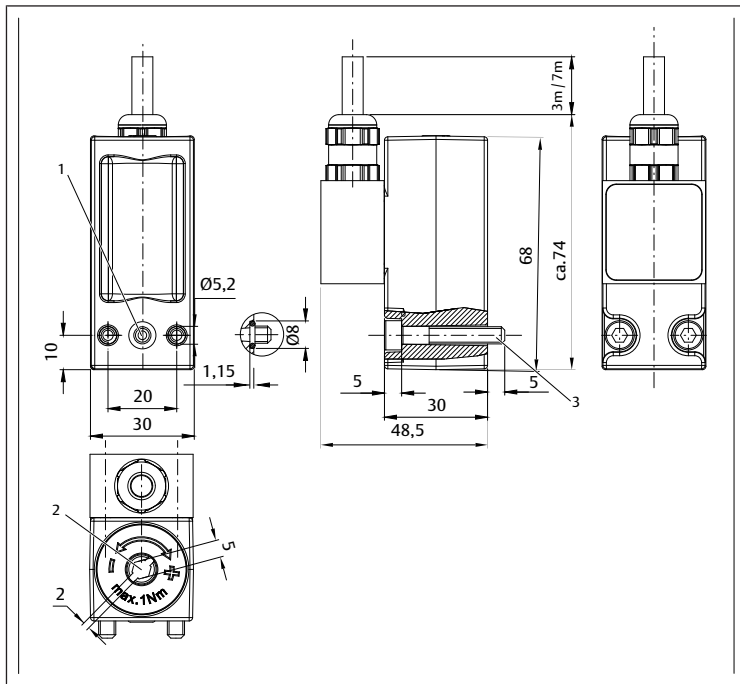

Fig. 1: Pneumatic flange connection
- Flange connection M5: $M_A = 2.5^{+0.5}$ Nm (see → Fig. 1)